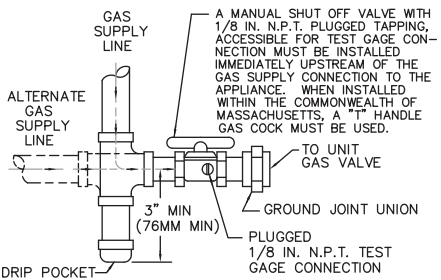

Figure 4 - Pipe Installation, Standard Controls
Pipe directly into the combination valve (See Figure 4).
7. Provide a drip leg in the gas piping near the gas unit heater. A ground joint union and a manual gas shutoff valve should be installed ahead of the unit heater controls to permit servicing. The manual shutoff valve must be located external to the jacket (See Figure 4).